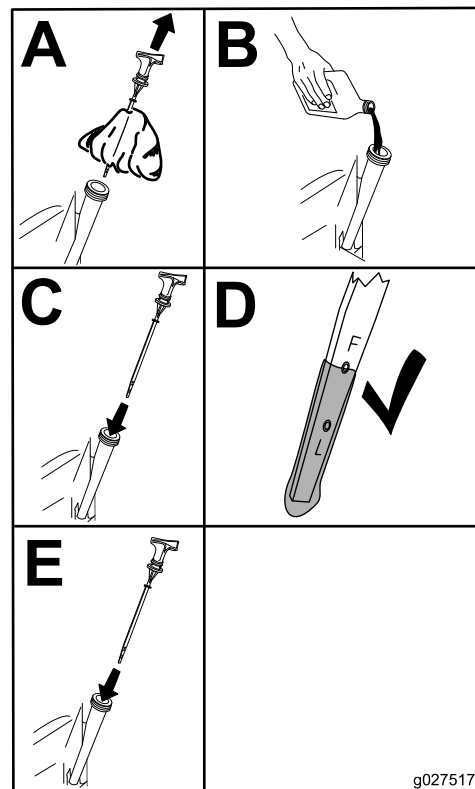

Figure 64
6. Slowly pour approximately 80% of the specified oil into the filler tube and slowly add the additional oil to bring it to the Full mark (Figure 64).